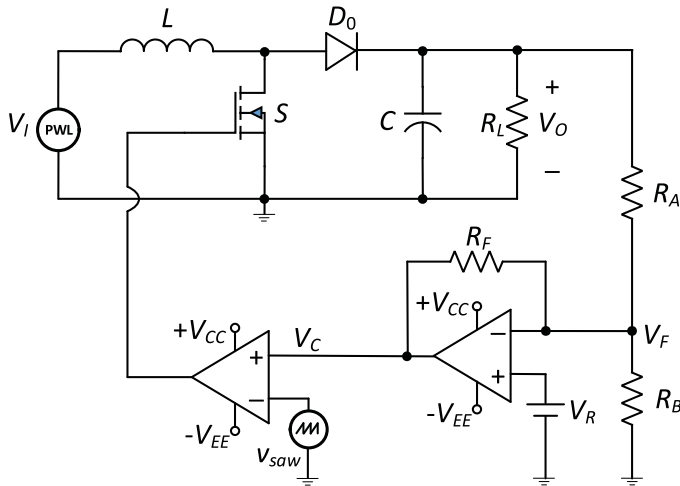

Figure 40.3 Circuit of the closed-loop boost dc–dc converter used to simulate step change in input voltage.
1. Construct the circuit shown in Figure 40.3 on the circuit simulator.